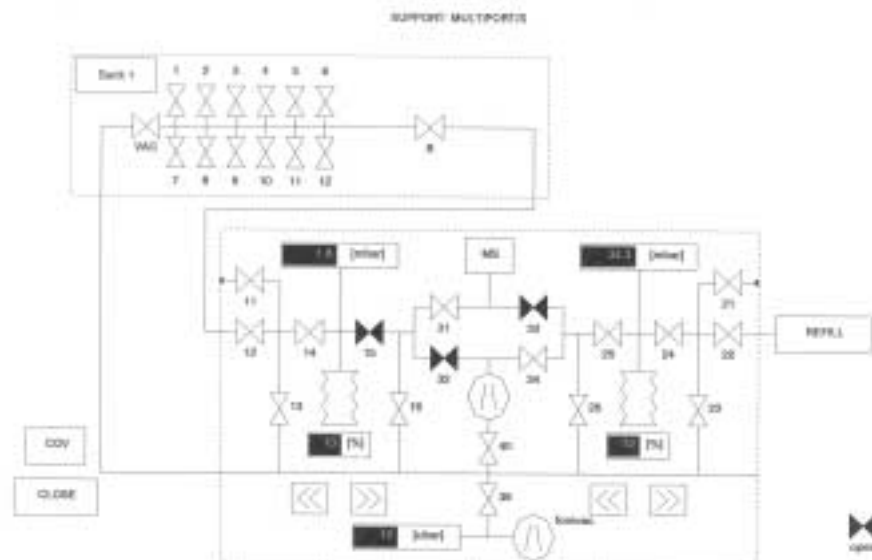

Figure1: Schematic representation of the MAT252 inlet system and multiport manifold.
3. Note fore vacuum baseline (Fig. P1) and open the following valves in order. Click on valves 39, 13, 12, and 14 (Fig. 1). Allow vacuum to regain baseline.
7. Click on CNF-A, SUPP-A, and 2-MULTIPOINT CTRL (Fig. 1).